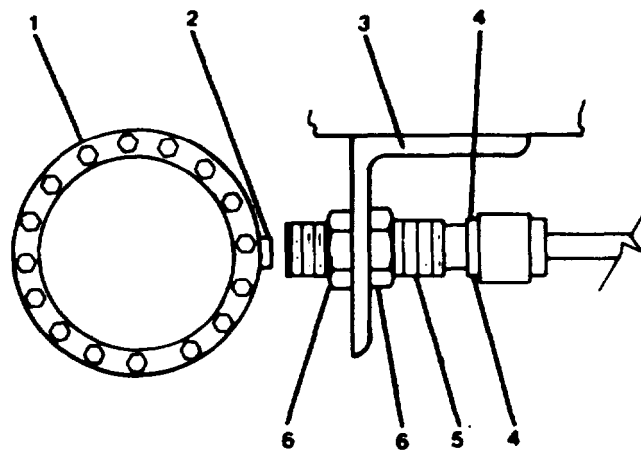

FIGURE 2-230. Adjusting Electrical Self-Generating Shaft Tachometer.
The motional pickup transducer (5, FIGURE 2-230) contains flat spots (4) that must be oriented parallel to the propeller shaft flange (1) in order to transmit a direction/speed signal to shaft tachometer ammeters on the pilothouse and engine control station consoles.